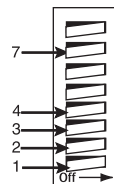

Figure 3: DIP Switches
4. Locate the DIP switches numbered 1-4 and 7. (See Figure 3: DIP Switches 1-4 and 7).